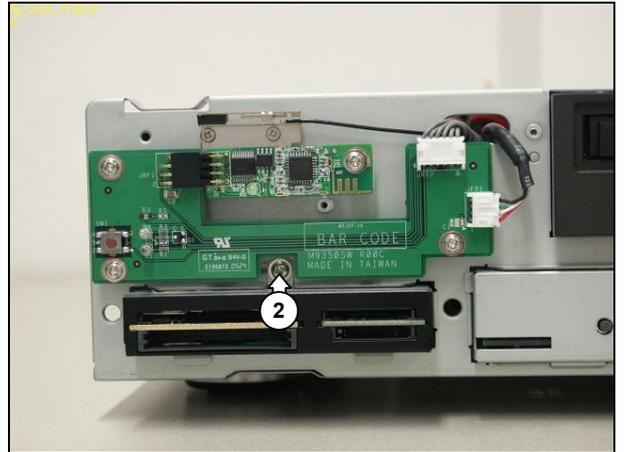

Figure 0-2
5. Remove the mounting screw (2) from the card reader subassembly. See Figure 0-2.